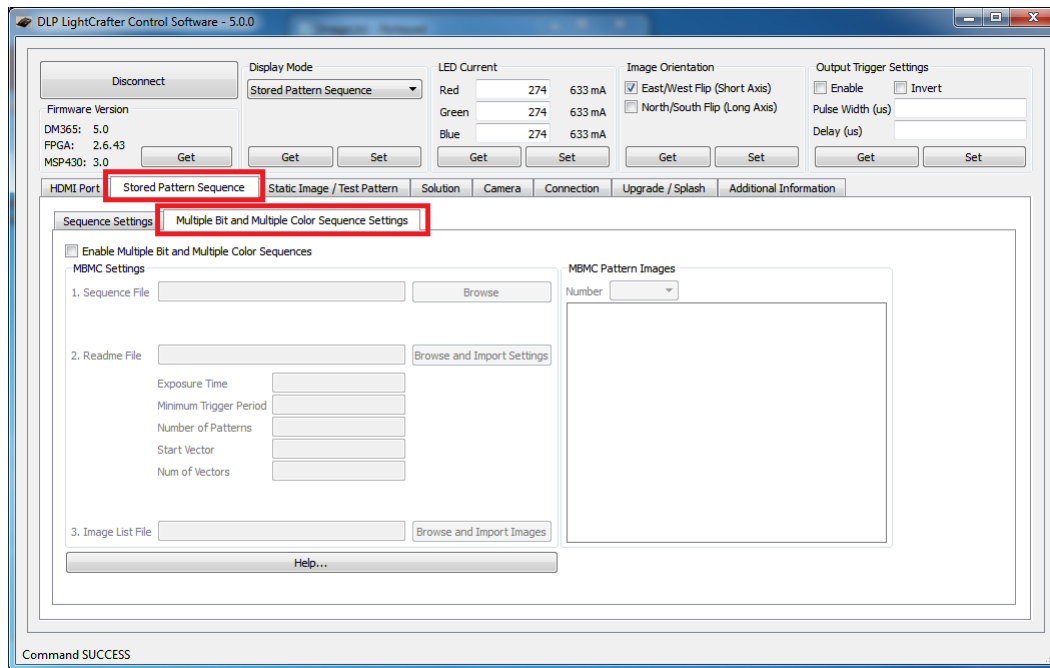

Figure 2-45. DLP LightCrafter GUI Multiple Bit and Multiple Color Sequence Settings Tab in Stored Pattern Sequence Tab
- Select "Stored Pattern Sequence" tab and "Multiple Bit and Multiple Color Sequence Settings" tabs. See Figure 2-45.